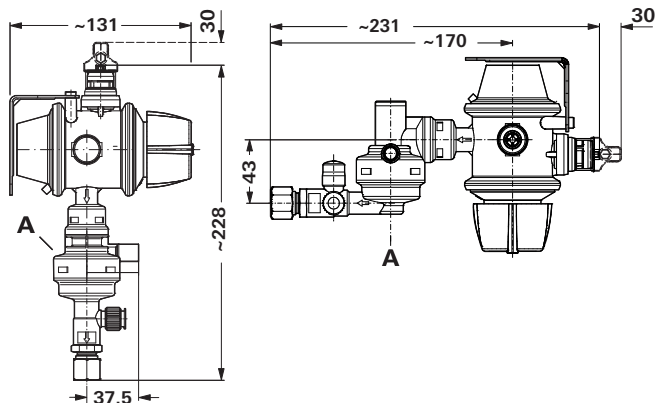

Fig. 3 Dimensions in mm. Not shown to scale
- Depending on the version, the DuoControl CS must be fitted to a stable wall in a vertical position or fitted to the top of the gas cylinder box in a horizontal position. The **triggering element** (Figure 3 – A) must always be in a **vertical position**.